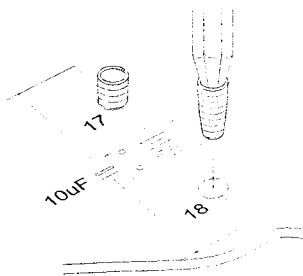

Figure 3
- From the top side of the cardboard panel, install 18 spring terminals into the 18 large, numbered holes; To make installation easier, use the pointed end of a pencil or ballpoint pen to push the spring through the holes and twist slightly. (See Figure 3.)